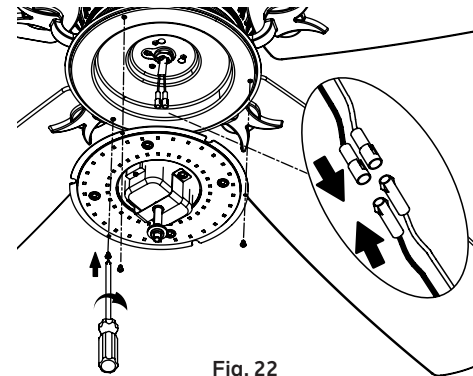

Fig. 22
Step 1. Hold the LED light kit to light plate, then connect the 2 single pin connectors from the light kit to the 2 single pin connectors from the motor assembly. Connect the black wire to black wire, and the white wire to white wire. Attach the light kit to the light plate and securely tighten with three (3) screws from the screw pack (Fig. 22)